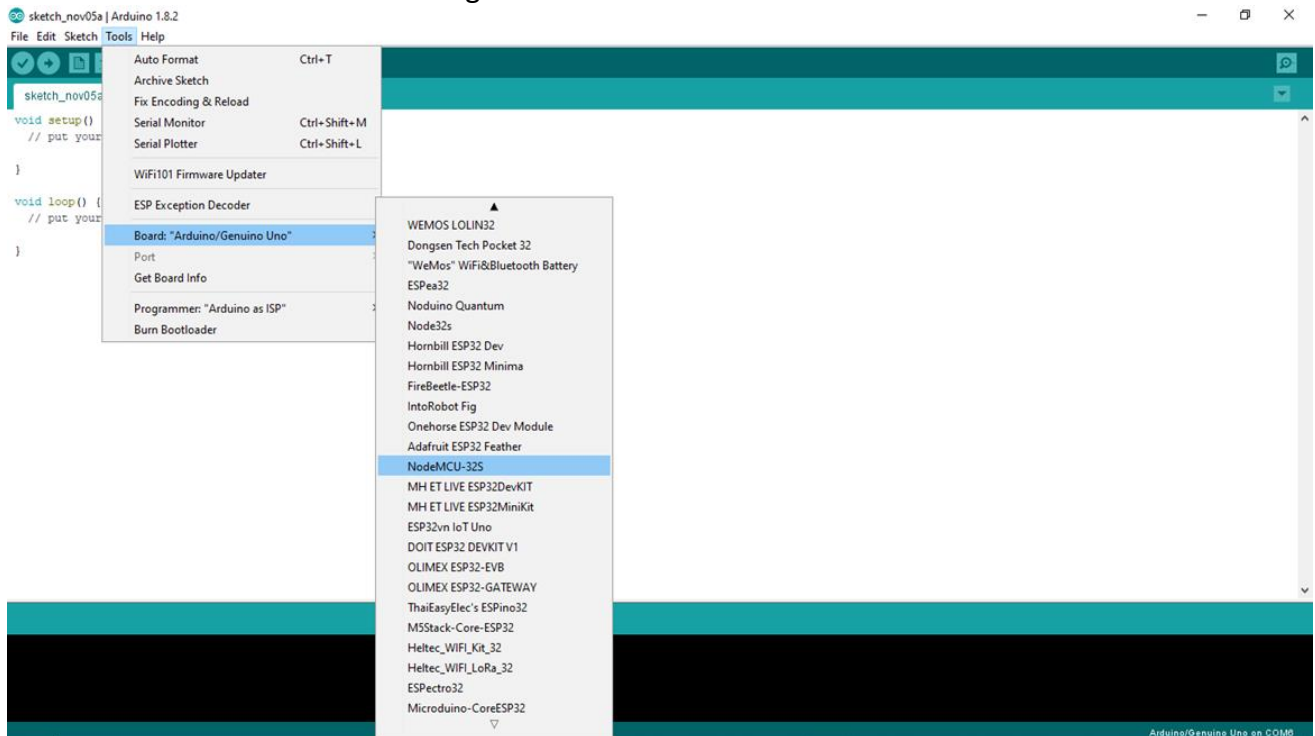

Figure 9: Board Selection
9. Click on Tools Tab, move mouse pointer on "Board: Arduino / Genuino Uno" and click on "NodeMCU-32S" as shown in figure 9.